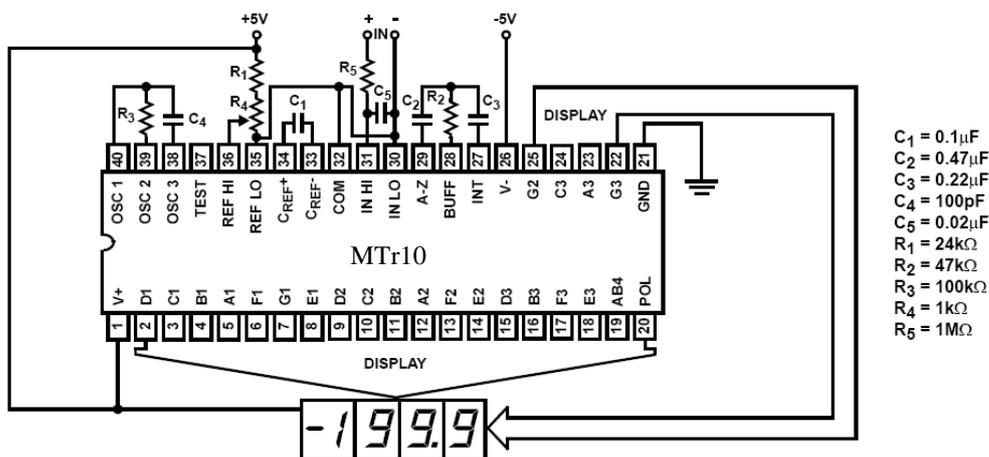

Figure 1. TEST CIRCUIT AND TYPICAL APPLICATION WITH LED DISPLAY COMPONENTS SELECTED FOR 200mV FULL SCALE
- Unless otherwise noted, specifications apply at $T_A = 25^\circ\text{C}$, $f_{\text{CLOCK}} = 48\text{kHz}$. MTr10 is tested in the circuit of Figure 1.